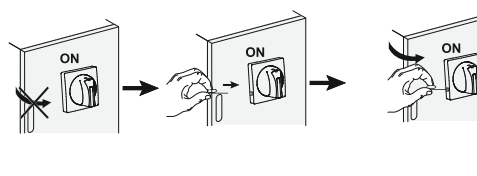

Рисунок 13 – Функции TEST / Figure 13 – TEST function
– TEST. The R10N residual current circuit-breaker requires the use of the TEST function to ensure proper functionality. The TEST button on the operating module duplicates the button on the modular device, which is designed to create a fault in the electrical circuit to test the device’s ability to trip and de-energize. The TEST button simulates an emergency situation to test the device’s protective functions and ensure its reliability in case of an actual incident. Detailed instructions are presented in figure 13.